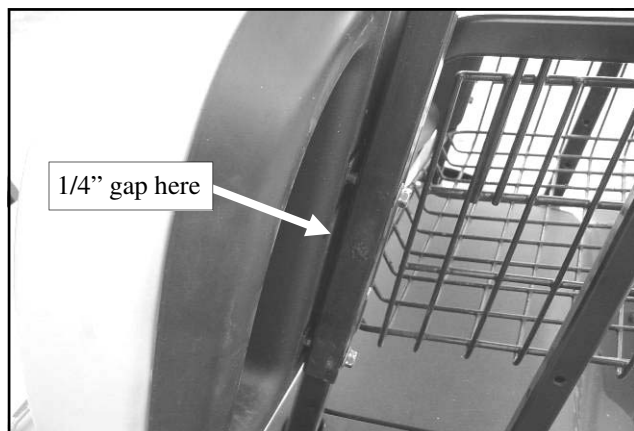

Fig. 1.5.b (view from left side)
2.8 Tighten all side frame hardware at this time. Also tighten the seat back bolts loosened in Fig. 1.5 on page 8.